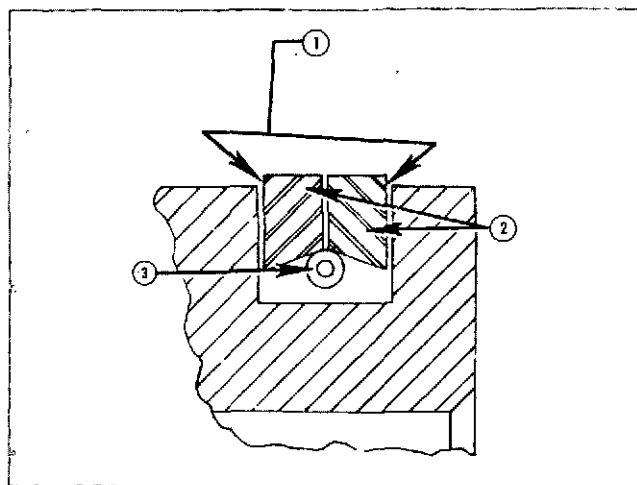

Fig. 14-1-87, V41468. Slinger and ring assembly
1. Slide one ring (2, Fig. 14-1-87) into slinger groove so yellow dot on ring is against groove wall.
2. Put on back-up spring (3).
3. Slide second ring into slinger groove so yellow dot on ring is against opposite groove wall (1).